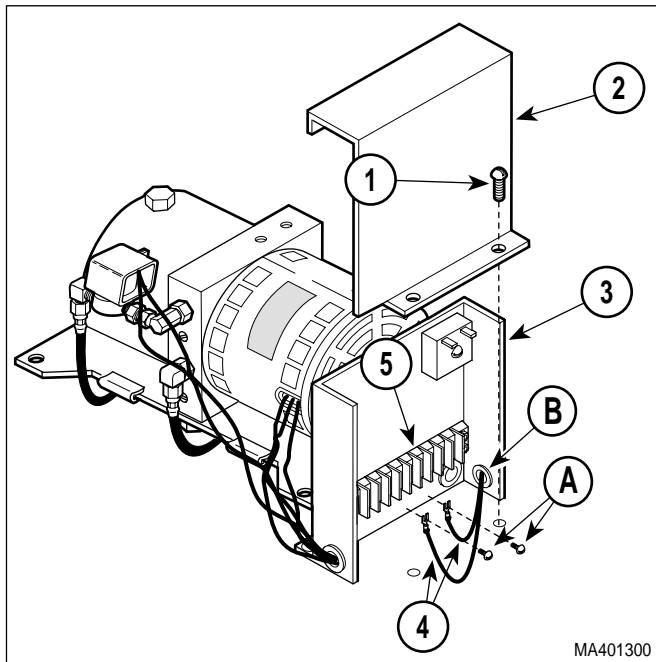
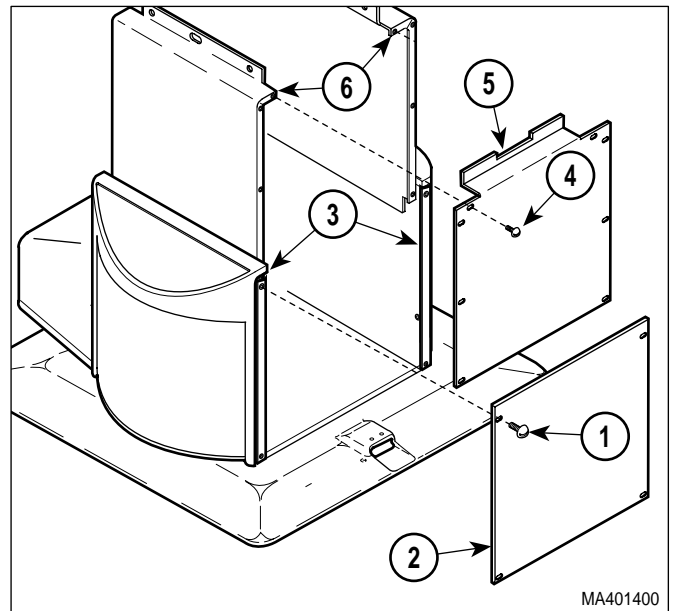
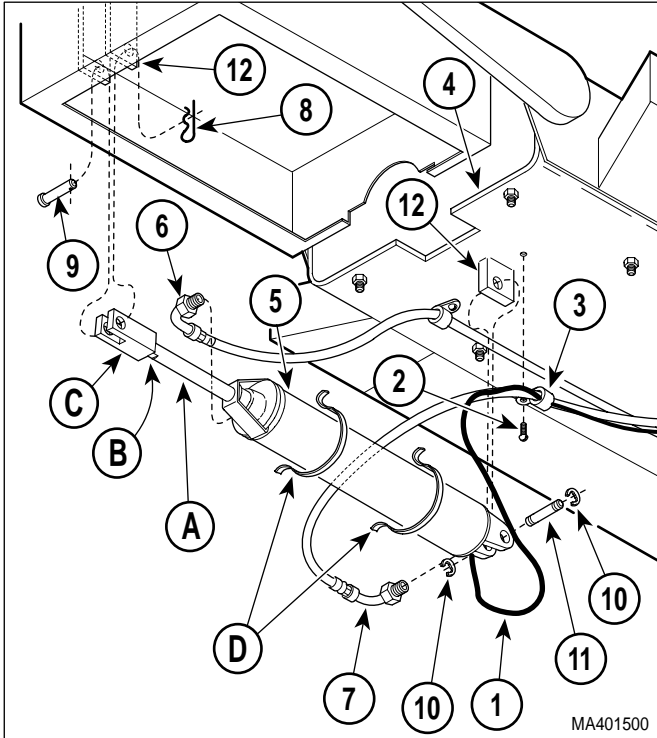

Figure 4-20. Foot Cylinder Wire Disconnection / Connection
Figure 4-21. Shrouds Removal / Installation
Figure 4-22. Foot Cylinder Removal / Installation
- (1) If possible, raise FOOT UP function all the way up.
- (2) Unplug table power cord from outlet.
- (3) Remove motor cover assembly (Refer to para 4.2).
- (4) Remove two screws (1, Figure 4-20) and control cover (2) from control panel (3).
- (5) Loosen two terminal screws (A); then tag and disconnect two foot cylinder wires (4) from terminal block (5).
- (6) Pull foot cylinder wires (4) out thru wire hole (B).
- (7) Remove four screws (1, Figure 4-21) and front outer shroud (2) from left and right hand outer shrouds (3).
- (8) Remove eight screws (4) and front inner shroud (5) from left and right hand inner shrouds (6).
- (9) Cut cable ties (D) securing foot cylinder wire harness (1, Figure 4-22).
- (10) Remove screw (2) and wire clip (3) securing foot cylinder wire harness (1) to seat weldment (4).
- (11) Cut cable ties securing hose assemblies to foot cylinder (5).
- (12) Disconnect hose assembly (6) from foot cylinder (5).
- (13) Disconnect hose assembly (7) from foot cylinder (5).
- (14) Support foot section of table top and then remove hitch pin clip (8), clevis pin (9), two E-rings (10), clevis pin (11), and foot cylinder (5) from brackets (12).
- (1) Install foot cylinder (5, Figure 4-22) on brackets (12) and secure with clevis pin (11), two E-rings (10), clevis pin (9), and hitch pin clip (8).
- (2) Connect hose assembly (7) to foot cylinder (5).
- (3) Connect hose assembly (6) to foot cylinder (5).
- (4) Secure hose assemblies (6 and 7) to foot cylinder (5) with cable ties.
- (5) Secure foot cylinder wire harness (1) to seat weldment (4) with wire clip (3) and screw (2).
- (6) Feed foot cylinder wires (4, Figure 4-20) thru wire hole (B) in control panel (3).
- (7) Connect two foot cylinder wires (4) to terminal block (5) and secure with two terminal screws (A).
- (8) Install control cover (2) on control panel (3) and secure with two screws (1).
- (9) Plug table power cord into outlet.
- (10) Raise FOOT UP function all the way up.
- (11) If foot section *is not* level with seat section when FOOT UP function is completely raised, perform steps 12 thru 14. See Figure 4-22. If foot section *is* level when the FOOT UP function is completely raised, go to step 17.
- (12) Lower FOOT DOWN function down until cylinder rod is extended halfway.
- (13) Place a wrench on adjusting seats (B) of cylinder rod and use it to rotate cylinder rod to adjust clevis (C) up or down as necessary.
- (14) Repeat steps 10 thru 14 until foot section is level with seat section when FOOT UP function is completely raised.
- (15) Install any cable ties removed during removal.
- (16) Install front inner shroud (5, Figure 4-22) on left and right hand inner shrouds (6) and secure with eight screws (4).